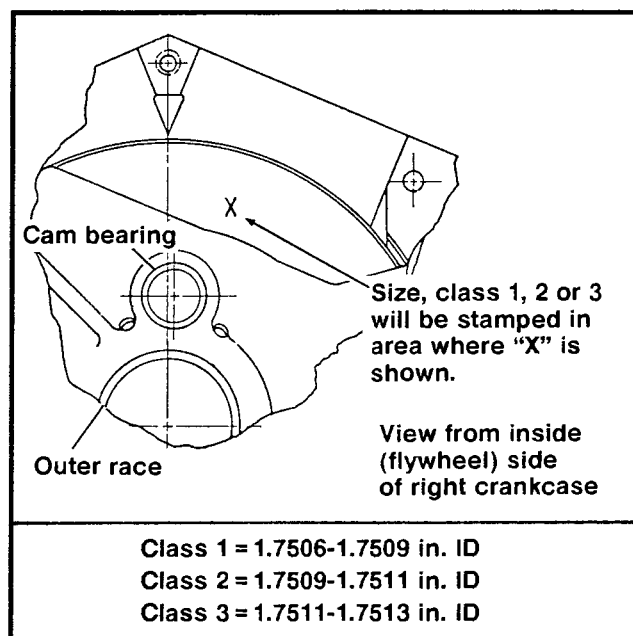

Figure 1. ID Codes, Outer Race Of 1340cc Engines
See Figure 1. The pinion shaft outer race (bore) inside diameter (ID) is marked on the inside surface of the right crankcase half as shown in Figure 1.